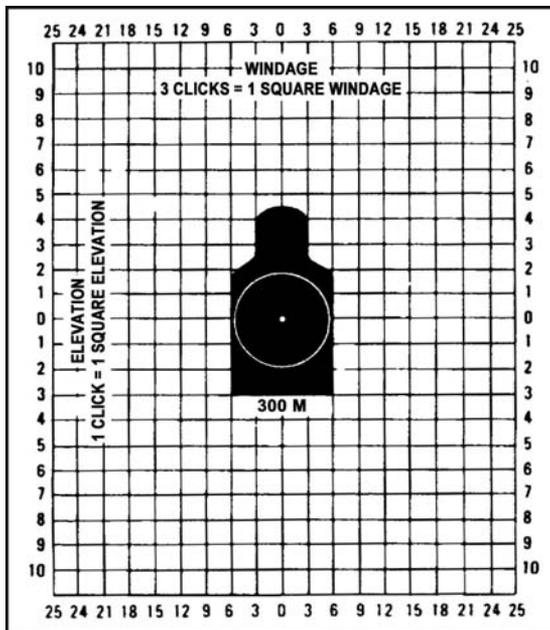

Figure 071-311-2030-3. 300-meter zero target
- (4) Verify the sight picture.
- b. Align the aiming point (figure 071-311-2030-3).